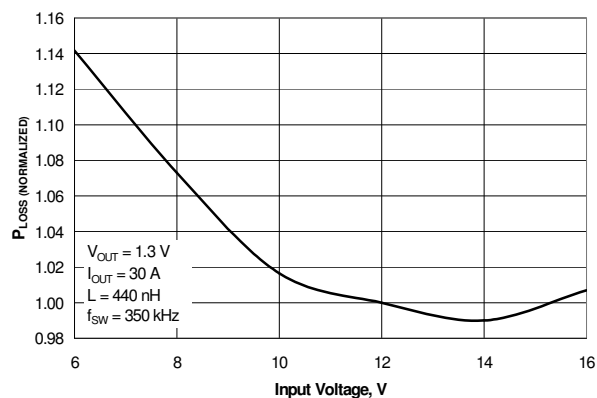

Figure 8. Power Loss vs. Input Voltage
* May be operated at lower input voltage. See figure 8.